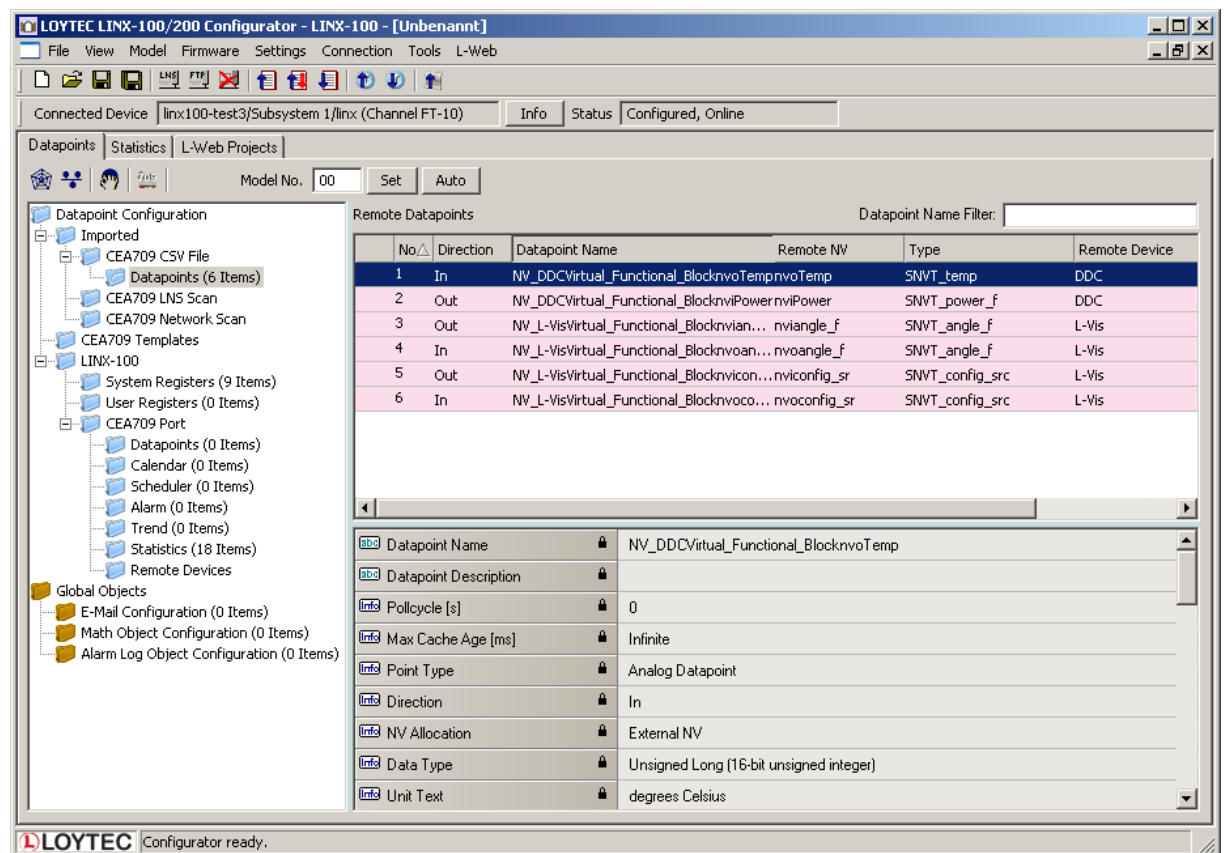

Figure 118: Imported NVs.
4. Now the CSV File folder is populated with the imported NVs as shown in Figure 118.